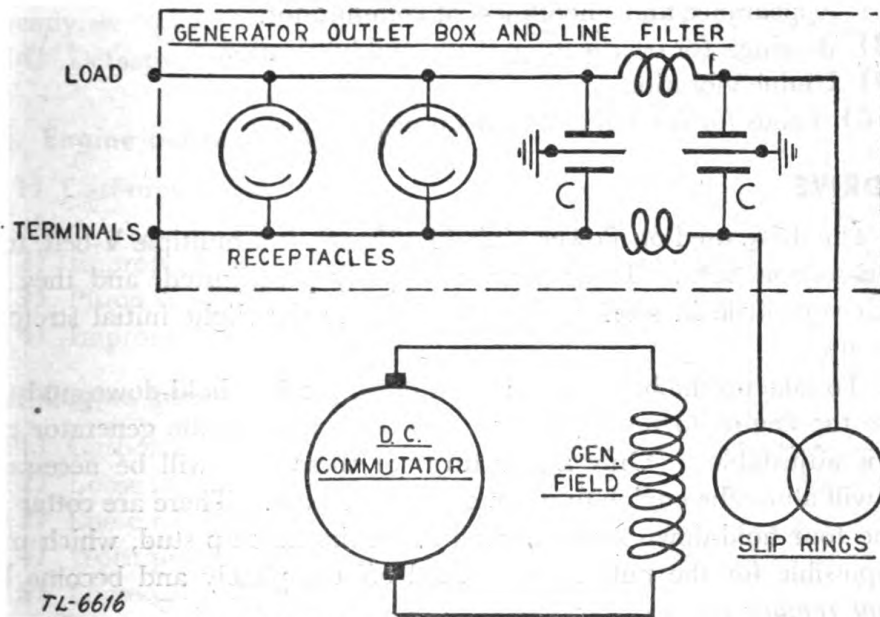

FIGURE 20. Power Unit PE-75-(\*), schematic of generator connections.
**e. Connections** (fig. 20). Keep all connections tight. Any frayed, cut, or worn insulation must be repaired immediately to prevent a possible break-down. See that the lead connections in the conduit (junction) box are properly insulated to prevent grounding against the box or cover.